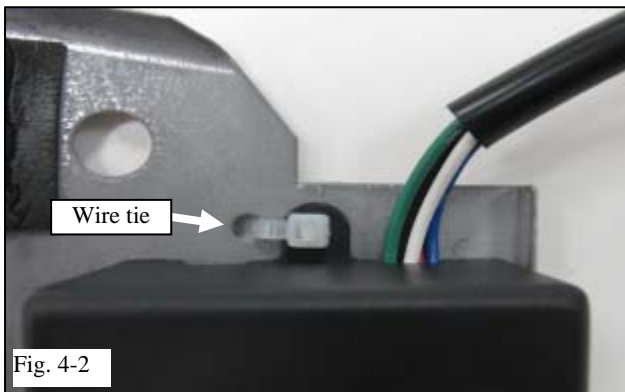

Fig. 4-2
- (1) DO NOT block the mounting hole with foam tape.
- (2) Trim tape as needed.
- (3) Secure the ECU to the bracket using the top two mounting holes with one (1) small wire tie as shown. (Fig. 4-2)